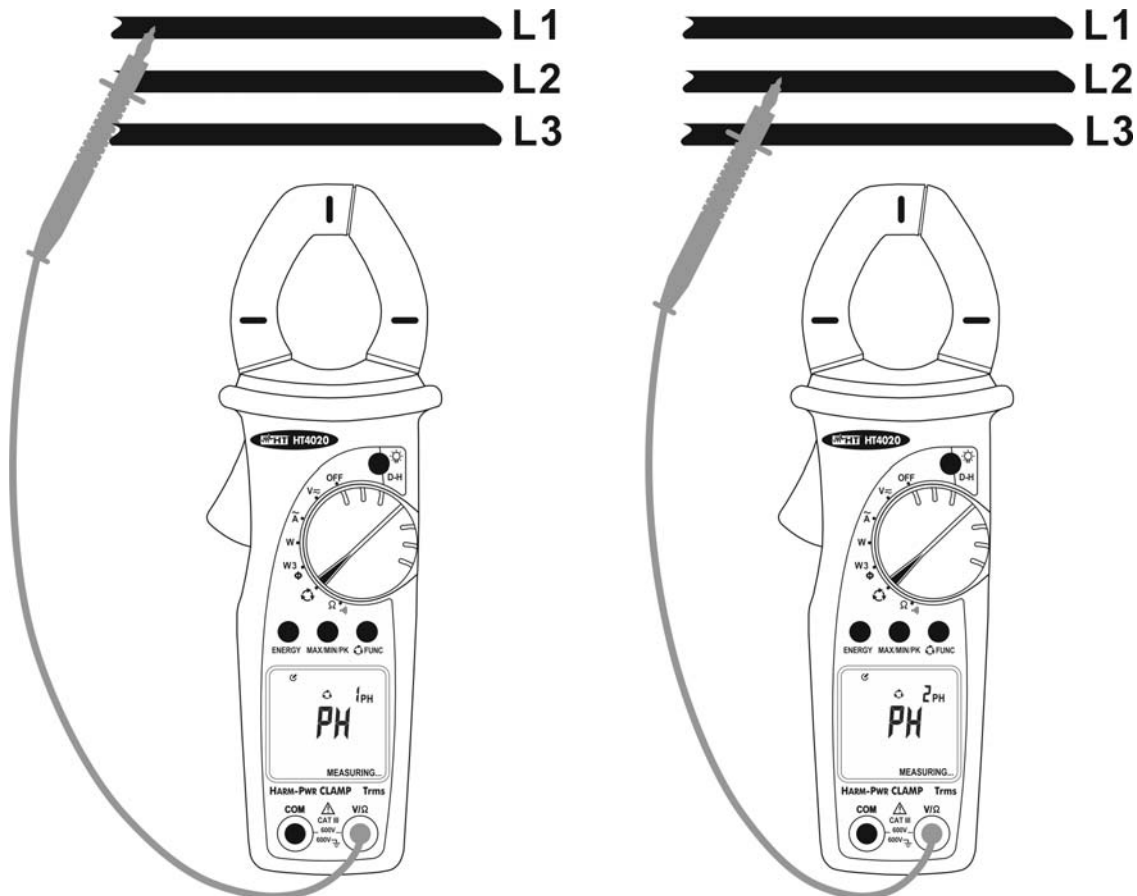

Fig. 13: Use of instrument for phase sequence indication with 1 wire
3. Connect the red terminal to the L1 phase conductor (see Fig. 13 – left part). If necessary use the rubber test lead holster and insert the red test lead
5. After about one second “**MEASURING**” appears on the display indicating that the instrument is ready to execute the first measurement (see Fig. 13 – left part)
8. Connect the test lead to the L2 phase conductor (see Fig. 13 – right part)